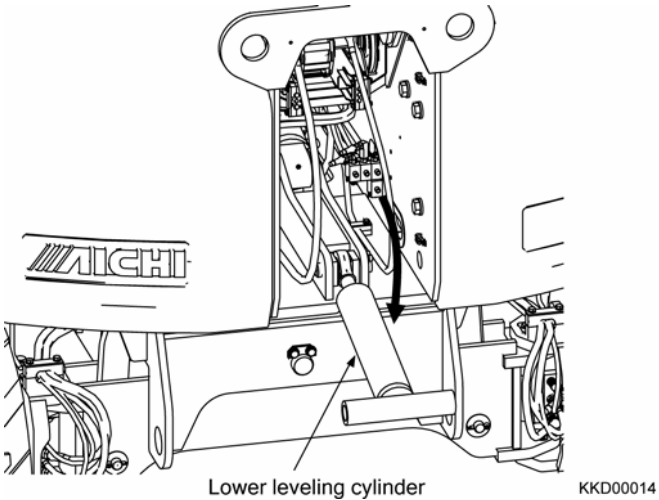

Fig. 2-43
18) Lay down the lower leveling cylinder. (Fig. 2-43)